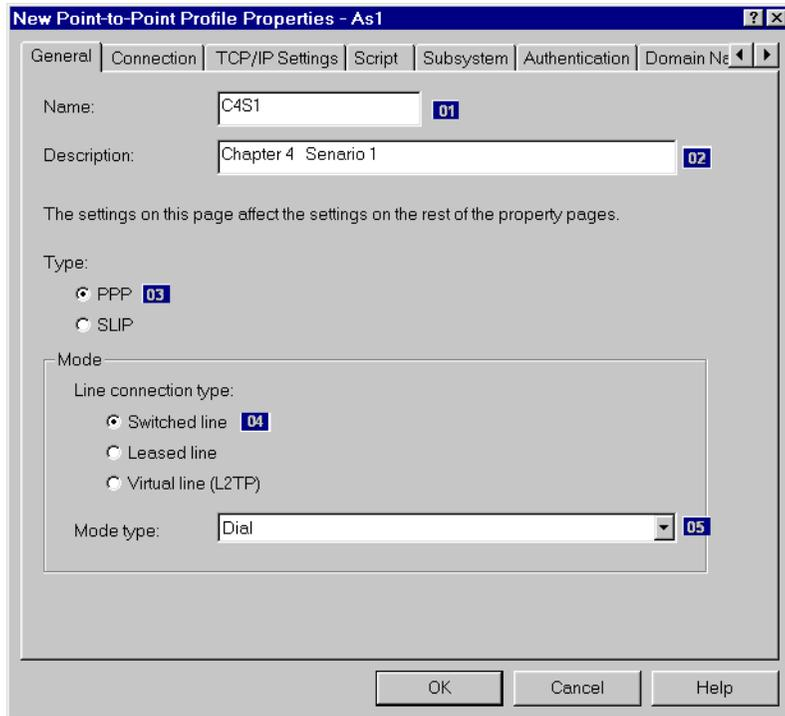
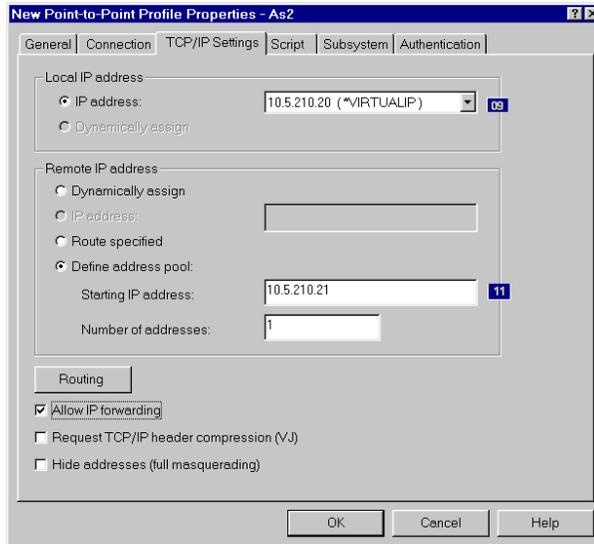

Figure 95. Creating a PPP profile for AS1 (dial mode)
Figure 109. Specifying the local and remote IP address
The numbers in reverse bold type in Figure 95 through Figure 109 on page 122 correspond to the numbers in Table 28 on page 122 through Table 36 on page 139.
Enter a name and description. Set Mode line connection type to **Switched line** and Mode type to **Dial** (Figure 95).
9. Click the **TCP/IP Settings** tab (Figure 109 on page 122).
Note that the numbers in the following tables correspond to those numbers in reverse-bold type in Figure 95 on page 111 to Figure 109.